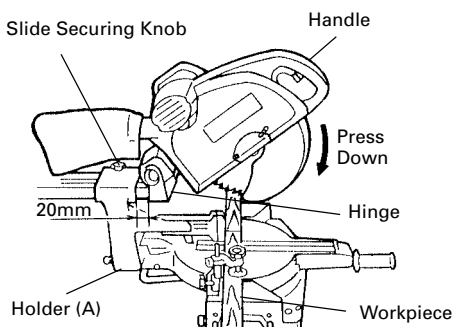

Fig. 20
Slide the hinge down to holder (A), then tighten the slide securing knob as indicated in Fig. 20.